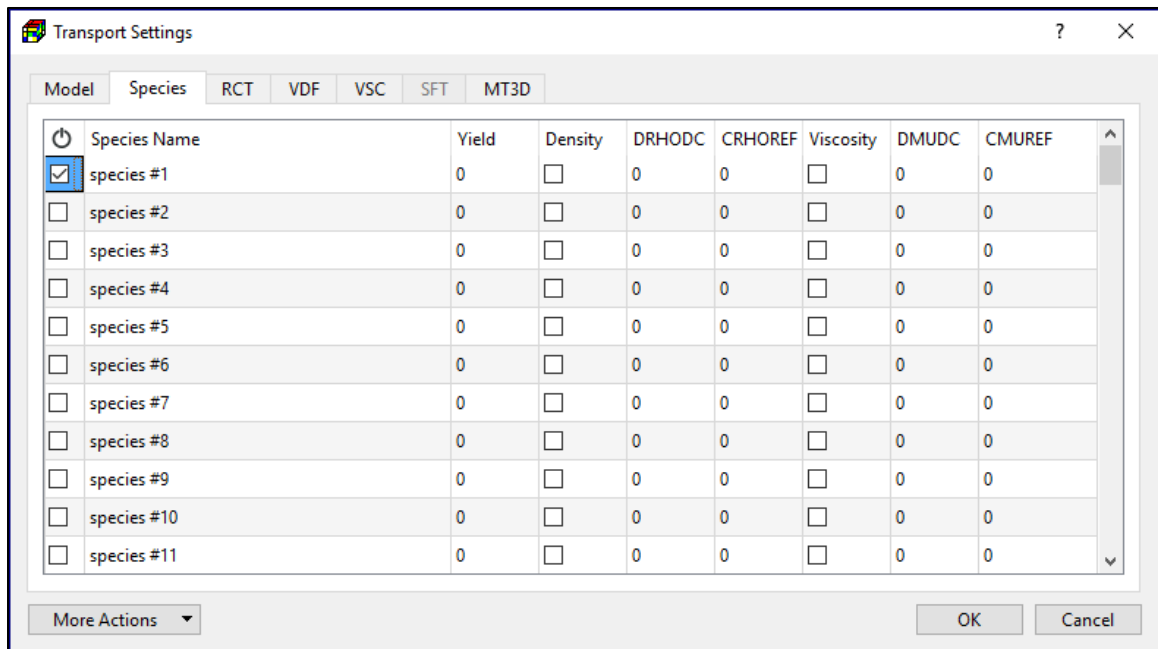

Figure 97. The Species Tab of the Transport Settings dialog box
3. **Species Tab** (Figure 97) defines the species to be used in the simulation. The table contains the species and related parameters.